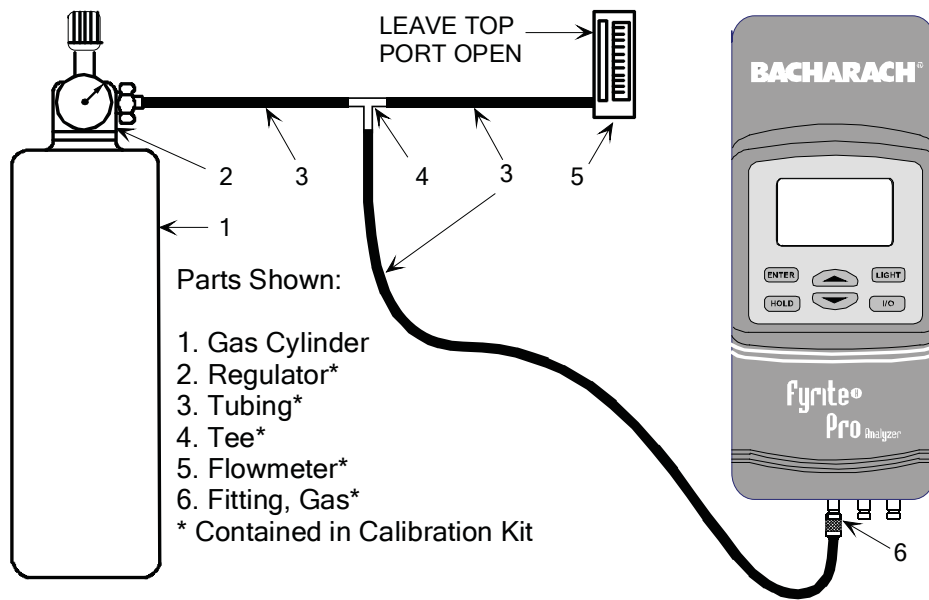

Figure 5-1. Calibration Kit Hookup
5. Connect the tubing of the Calibration Kit to the GAS inlet of the analyzer; then adjust the regulator for approximately 2 SCFH of excess flow (see Figure 5-1).
7. Adjust the regulator for approximately 2 SCFH of excess flow (see Figure 5.1).